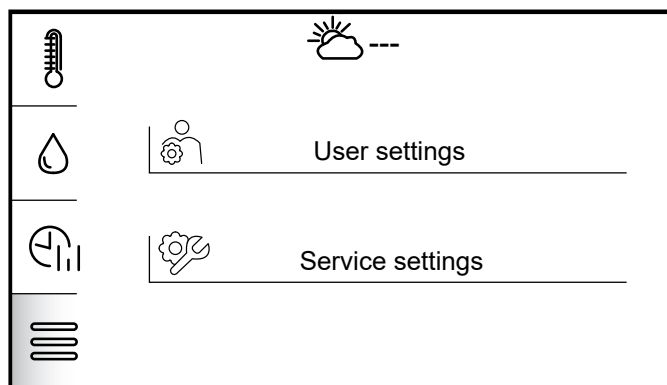

Figure 10-4: Settings selection.
1. When the heating circuit control interface is shown (see figure 7-1), tap settings menu. Refer to Table 7-1 and Figure 10-4.